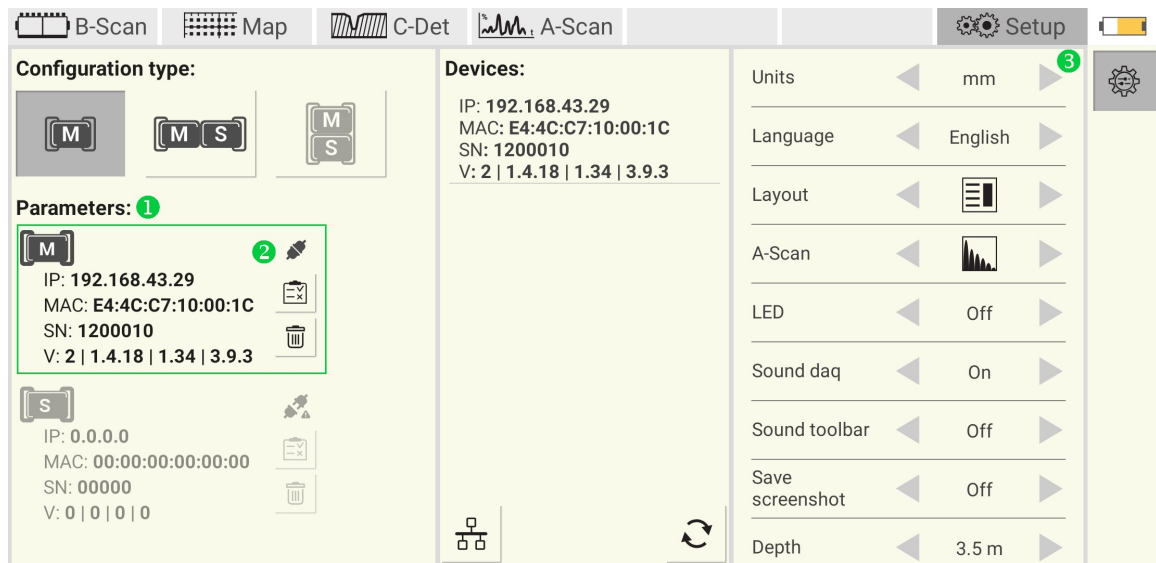

Figure 21: A1040 MIRA 3D connection
The indicator ② changes from  to . The battery indicator ③ changes its status from disconnected  to power,  Figure 21.